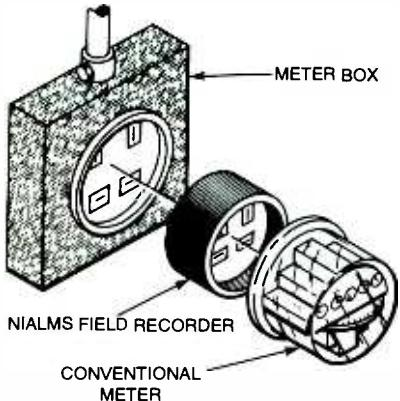

Fig. 1. The NIALMS Field Recorder is installed on the home's utility meter in between the meter box and the meter, as shown here.
NIALMS allow utilities to learn where, when, and how much electrical power consumers use. It can be done without entering homes to install monitoring devices on individual appliances. The NIALMS Field Recorder, illustrated in Fig. 1, is placed between the meter box and meter. The recorder is plugged in without any wiring and with only a short power interruption. That feature makes the NIALMS ideal for temporary troubleshooting.
Fig. 1. Solid-state diodes are available in two different configurations: point-contact (A) and junction (B) types. The current-vs.-voltage characteristic of the "ideal" PN-junction diode is illustrated in C. Note that there is no reverse-current flow through an ideal diode when reverse biased.